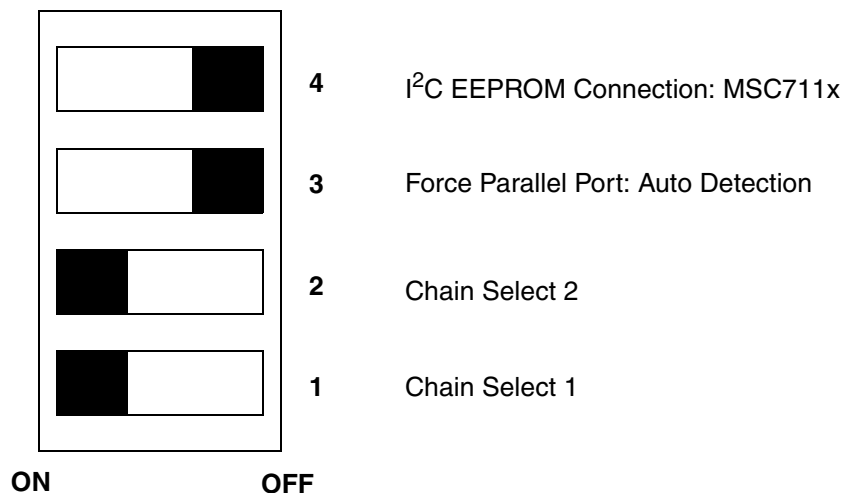

Figure 9. SW6 Settings for the MPC8272 Connection to the MSC7115 Device
- *SW6*. JTAG Chain Options. **Figure 9** shows the SW6 switch settings.